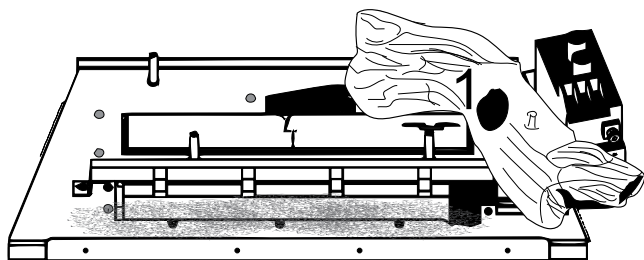

Figure 5.2 - Log #1 Placement
2. Place log #1 on the right-hand side of the burner assembly by positioning the pin locator hole on the bottom of the log over the pin on the right-hand side of the burner and by rotating the log clockwise toward the back to contact the rear bend on the sheet metal of the burner assembly. When the log is in place, make sure that the notch on the bottom of the log matches up with the bracket on the grate. See Figure 5.2.